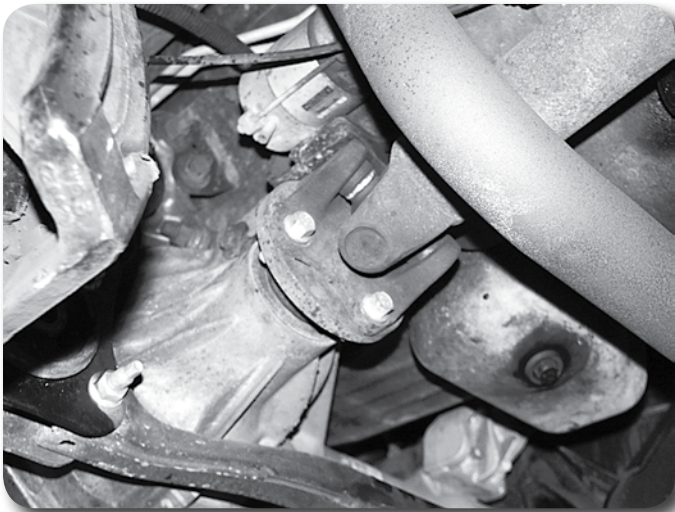

Figure 9
22. Make indexing marks on the front drive shaft and differential input flange for realignment later **Figure 9**. Remove the four bolts and disconnect the drive shaft from the differential. Mounting bolts will not be reused.